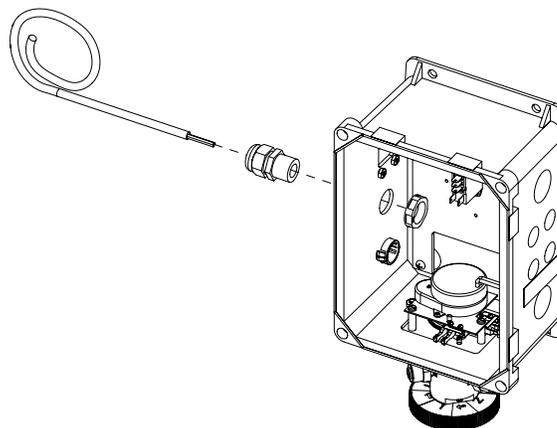

Figure 15.
3. Assemble them through the open hole and thread the solenoid coil cord through the cord grip fitting as shown in Figure 15.